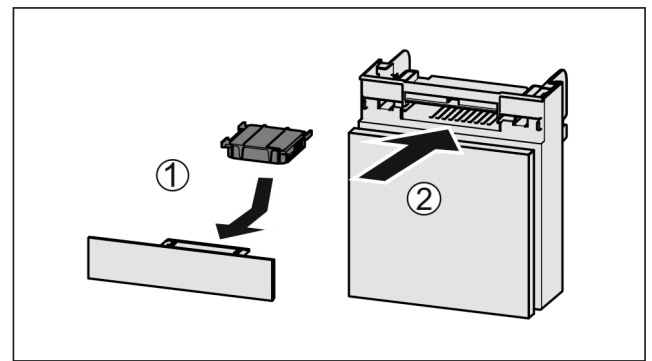

Fig. 233
- ▶ Insert the carbon filter as shown in the diagram Fig. 233 (1).
- ▶ Push the compartment in Fig. 233 (2).